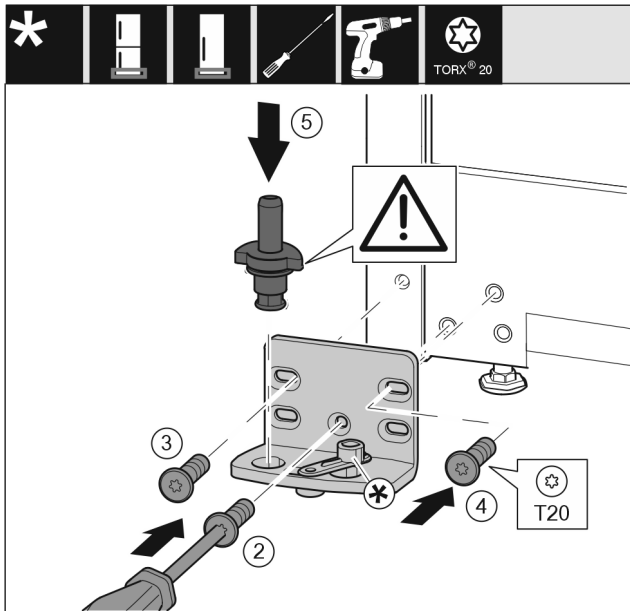

Fig. 22 *
- ▶ Place the swap bearing block on the other side and use a screwdriver to screw it on. Start with the screw Fig. 22 (2) at the bottom in the middle.*
- ▶ Tighten screw Fig. 22 (3) and screw Fig. 22 (4)*
- ▶ Insert the bearing bolt Fig. 22 (5) completely. Ensure that the latching cam is pointing towards the rear.*
- ▶ Place the swap bearing block on the other side and use a screwdriver to screw it on. Start with the screw (2) at the bottom in the middle.*
- ▶ Tighten screw (3) and screw (4)*
- ▶ Insert the bearing bolt (5) completely. Ensure that the latching cam is pointing towards the rear.*